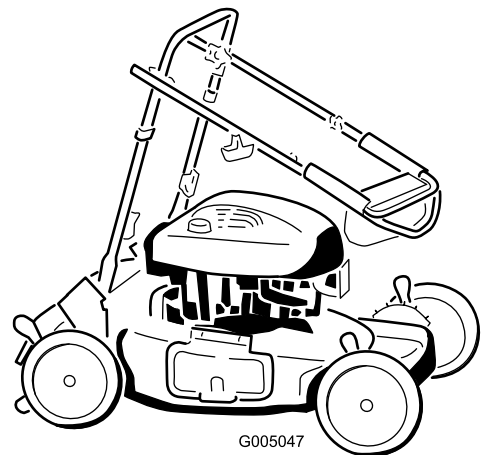

Figure 43
3. Fold the upper handle forward as shown in Figure 43.